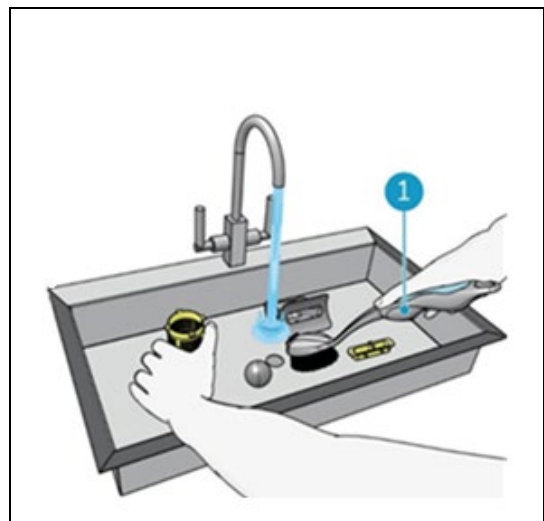

Figure 33
7. Rinse the parts with tap water. If required, clean with a brush (Figure 33, pos 1).